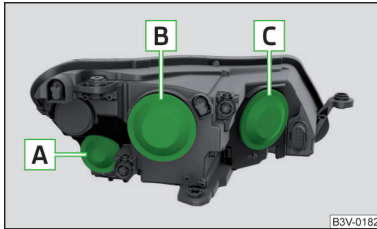

Fig. 360
Bulb arrangement » Fig. 360
- › Remove the protective cap **A** » Fig. 360 on page 299.
- › Fit the protective cap **A** » Fig. 360 on page 299.
- › Remove the protective caps **B** and **C** » Fig. 360 on page 299.
- › Use the protective caps **B** and **C** » Fig. 360 on page 299.